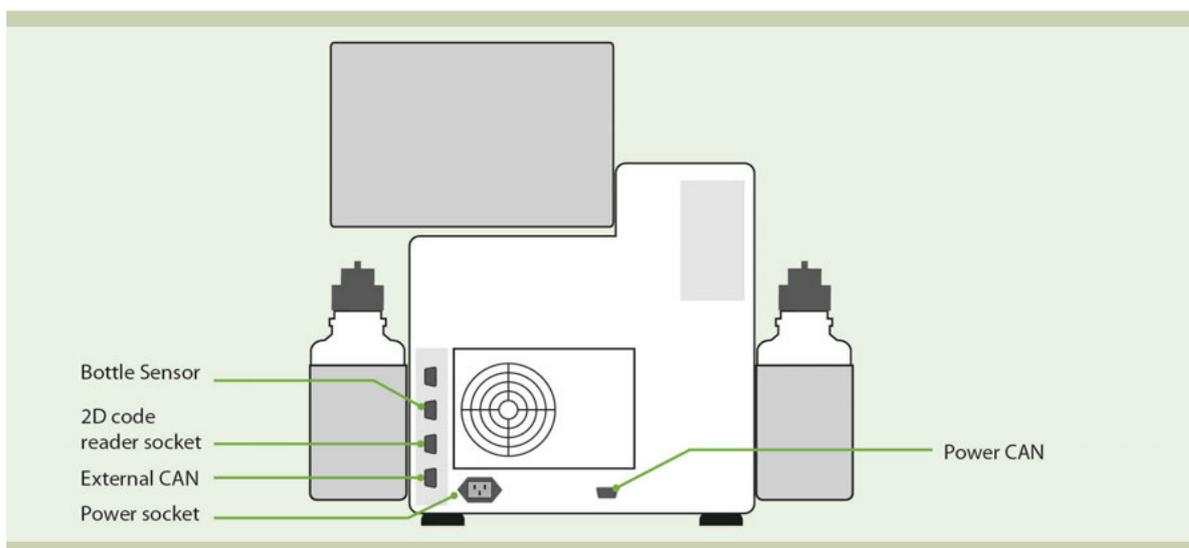

Figure 1.2: Rear view of the MACSQuant® X.
- 4 Connect the 4-end fluid sensor cable to the port labeled **Bottle Sensor** at the back of the MACSQuant® X (**Figure 1.2**) and fasten securely.
- 1 Connect the power cord to the power socket at the rear side of the MACSQuant[®] X. The main power switch is located on the right side of the instrument (**Figure 1.2**). Ensure that the main switch is in position O (off) before connecting the power cord.